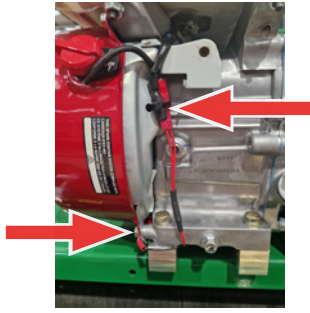

Fig. 17C - Disconnect cables to the engine.
4. Disconnect the earth [10 mm spanner] and ignition cables connecting to the engine (Fig. 17C).